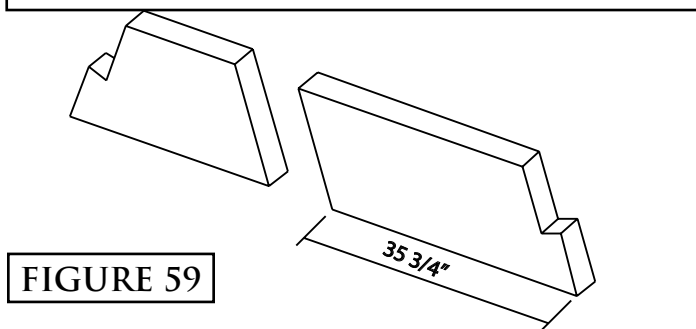

FIGURE 59
**Step 13:** Cut one end of the other two smoke dome top big, part 13, components at an angle parallel to the opposite end of the piece. The bottom length of the cut piece should measure  $35 \frac{3}{4}$ " (Figure 59).